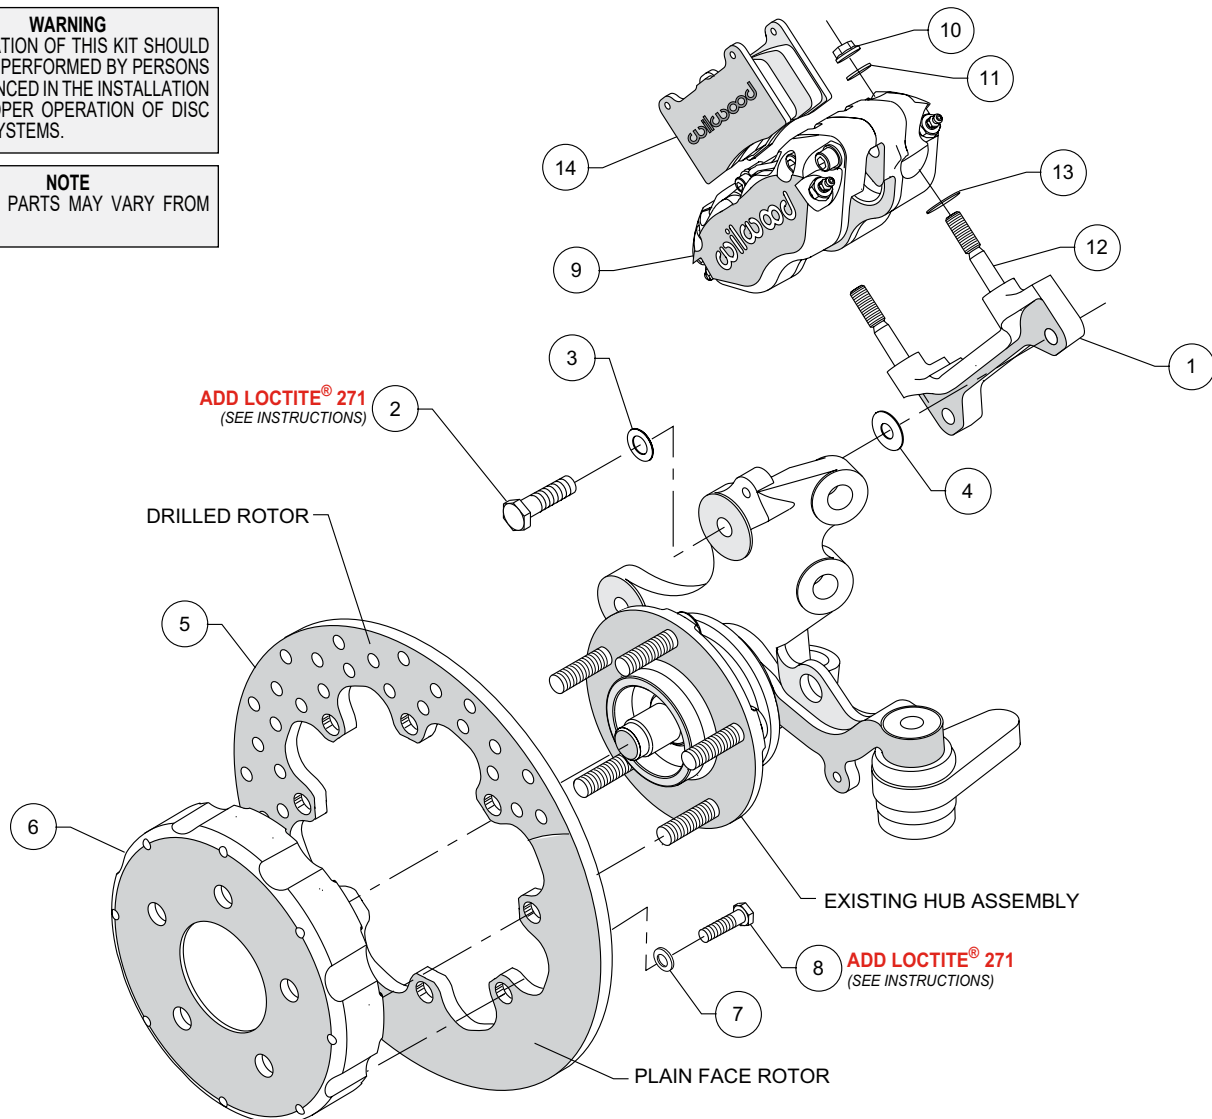
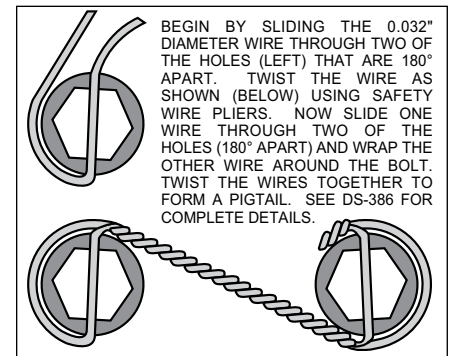

Figure 1. Typical Installation Configuration
Figure 3. Safety Wire Diagram
- The caliper mount bracket assembly (1) should be installed first with clean, dry threads on the mounting bolts. Install the bracket on the inboard side of the spindle by sliding bolt (2) through flat washer (3), and spindle ear from the outboard side of the spindle. Place shim washer (4) between the bracket (1) and the spindle (see figure 1). The bracket must tighten squarely against the inboard side of the caliper mount bosses on the spindle body. Inspect for interference from casting irregularities, machining ridges, burrs, etc. Use one thin shim (4) between the bracket and spindle during initial trial fitting. Later, after the caliper, pad, and rotor alignment has been checked, and any necessary shims have been put in place, the mount bolts should be coated with red *Loctite*® 271 and torqued to 60 ft-lbs.
- Assemble the rotor (5) to the hat (6) with the bolts (8) and washers (7) as shown in Figure 1. Apply red *Loctite*® 271 to the bolt threads and torque to 25 ft-lb using a criss-cross pattern. For an added measure of security, the bolts may be safety wired using standard 0.032 inch diameter stainless steel safety wire as shown in Figure 3-. Please refer to Wilwood's data sheet DS-386 (available at www.wilwood.com/Pdf/DataSheets/ds386.pdf) for complete safety wire installation instructions.
- Install one shim (13) over each stud (12) on the radial mount bracket. Slide the caliper (9) in place over the studs and rotors and install the washer (11) and lock nut (10) to hold the caliper in place. Snug the lock nuts (10) and check that the rotor (5) is centered in the caliper (9). Add or subtract .015" shims (4) as necessary between the mount bracket and the spindle to center the caliper.
- Remove the caliper center bridge pad retainer bolt, nut, and tube from the caliper. Slide the brake pads (14) into place. They should install easily without interference. Check that the outside radius of the brake pad is aligned with the outside diameter radius of the rotor face. Add or subtract shims (13) between the caliper and mount bracket to gain the proper alignment. Reinstall the center bridge pad retainer tube, bolt, and lock nut. The locknut should be snug without play in the bolt or tube. Be cautious not to over tighten.
- Once all clearances have been checked, remove the wheel, caliper, hat, and rotor from the spindle and hub. Secure the caliper mounting bracket (1) to the spindle using red *Loctite*® 271. Torque the bolts to 60 ft-lbs. Reinstall the hat and rotor assembly and again use several lug nuts to hold it in place. Reinstall the caliper and torque the caliper nuts (10) to 30 ft-lbs.